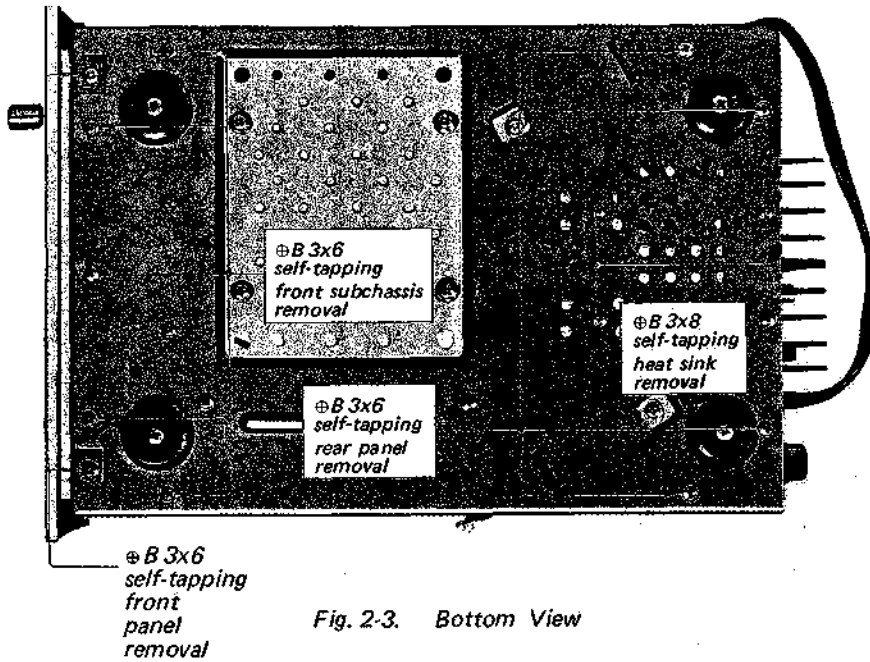

Fig. 2-3. Bottom View
4. Remove the two self-tapping screws (⊕ B 3x6) at the front bottom of the chassis as shown in Fig. 2-3. This frees the front panel.
2. Remove the five self-tapping screws ($\text{Ø}B 3 \times 6$) at front bottom of the chassis as shown in Fig. 2-3. This frees front sub-chassis.
2. Remove the two self-tapping screws ($\text{Ø}B 3 \times 8$) securing the heat sink to the chassis at the bottom as shown in Fig. 2-3.
2. Remove the four self-tapping screws ($\text{Ø}B 3 \times 6$) at the rear bottom of the chassis as shown in Fig. 2-3. This frees rear panel.